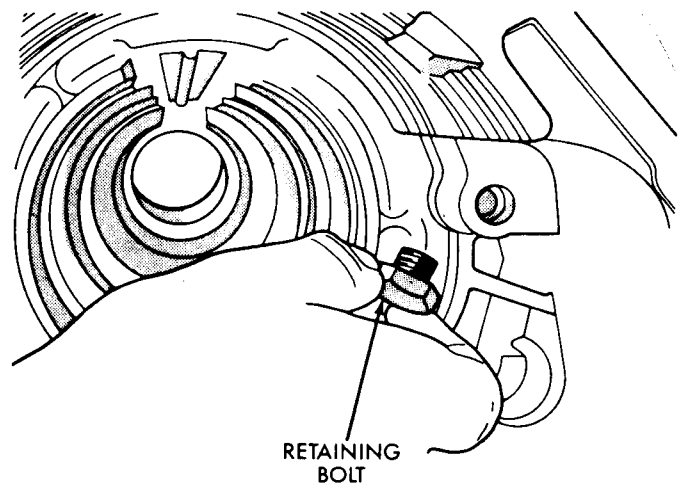
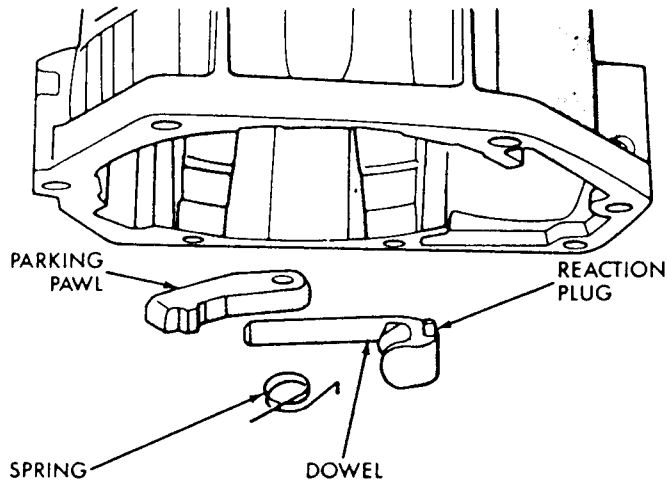

Fig. 15—Dowel Retainer Bolt
Fig. 16—Parking Pawl Components
(11) Unscrew the bolt securing dowel and parking pawl (Fig. 15). Now, another light tap to the case on the bench will cause the dowel, the parking pawl components to drop out on the bench (Fig. 16).